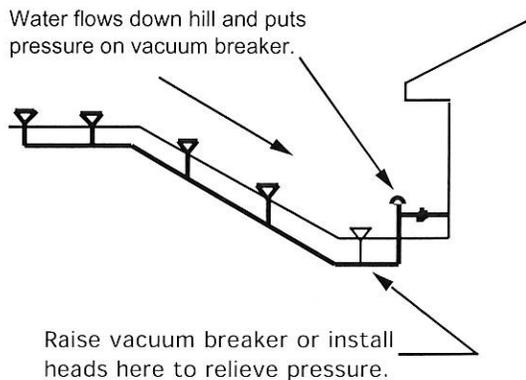

Figure 3
7. Lawn sprinkler piping must be isolated from the potable water supply by use of an approved vacuum breaker. The vacuum breaker, which is usually combined with a control valve, must be installed at least 6" above the surrounding ground and above a sufficient number of sprinkler heads that water in the uphill piping will not create backpressure onto the vacuum breaker below. See figure 3.